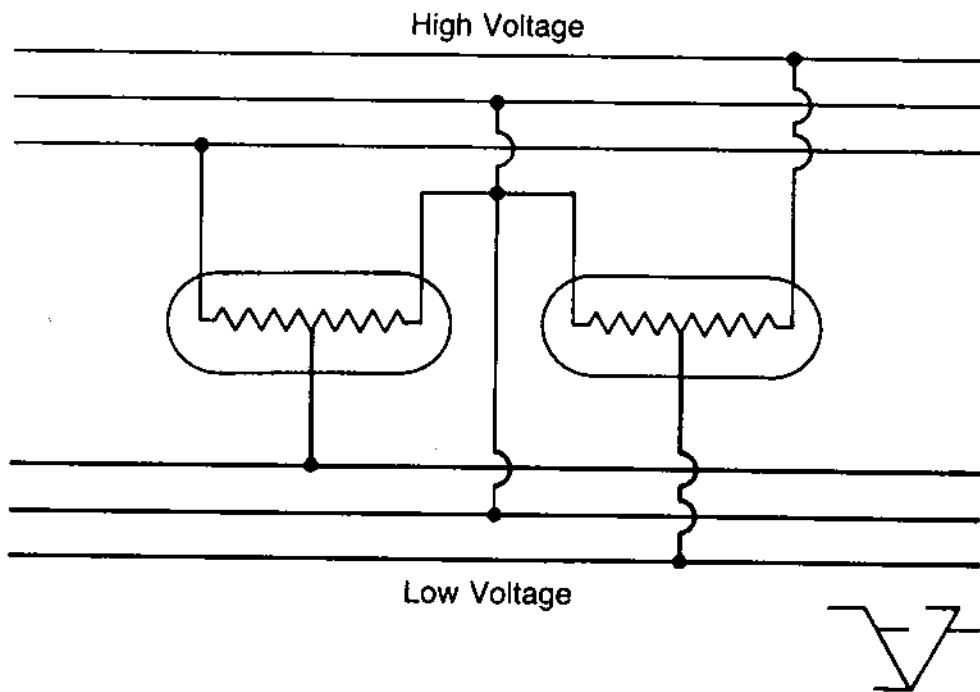

Fig. 39 – Three-Phase, Three-Wire, Open Delta with Autotransformers
d. Three-Phase, Three-Wire, Open-Delta with Autotransformers. See Figure 39. The high and low voltages are electrically connected together. For this reason, the low side and connected apparatus will be subjected to high side voltage under fault conditions.